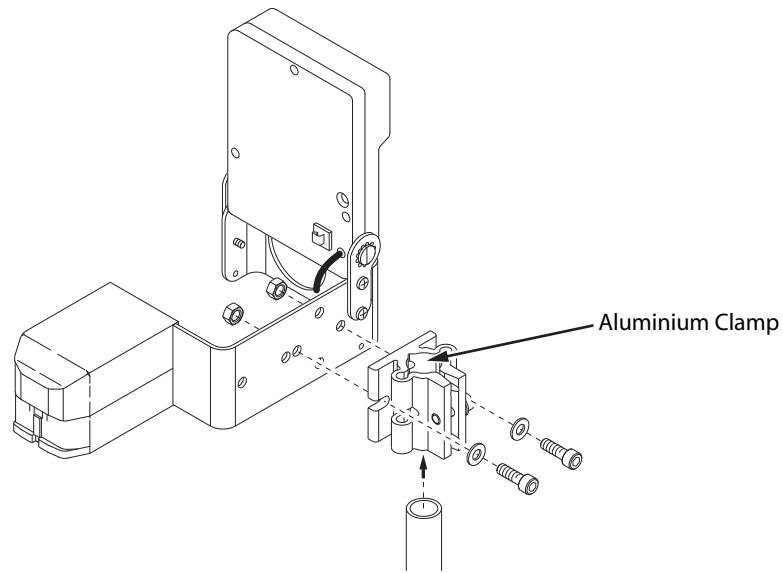

Figure 3-5: Printer Controller Mounting Frame
- 1 Attach the aluminium clamp to the printer controller mounting frame using the two screws and two nuts. Refer to Figure 3-5 on page 3-5.